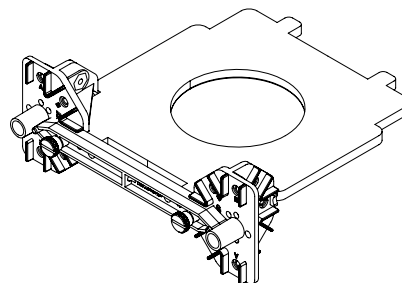

Figure 4: Floor construction, second step.
- Place the foam floor between the half round connectors, with one edge of the floor against the back of the #3 I-beam, as shown in Figure 4.